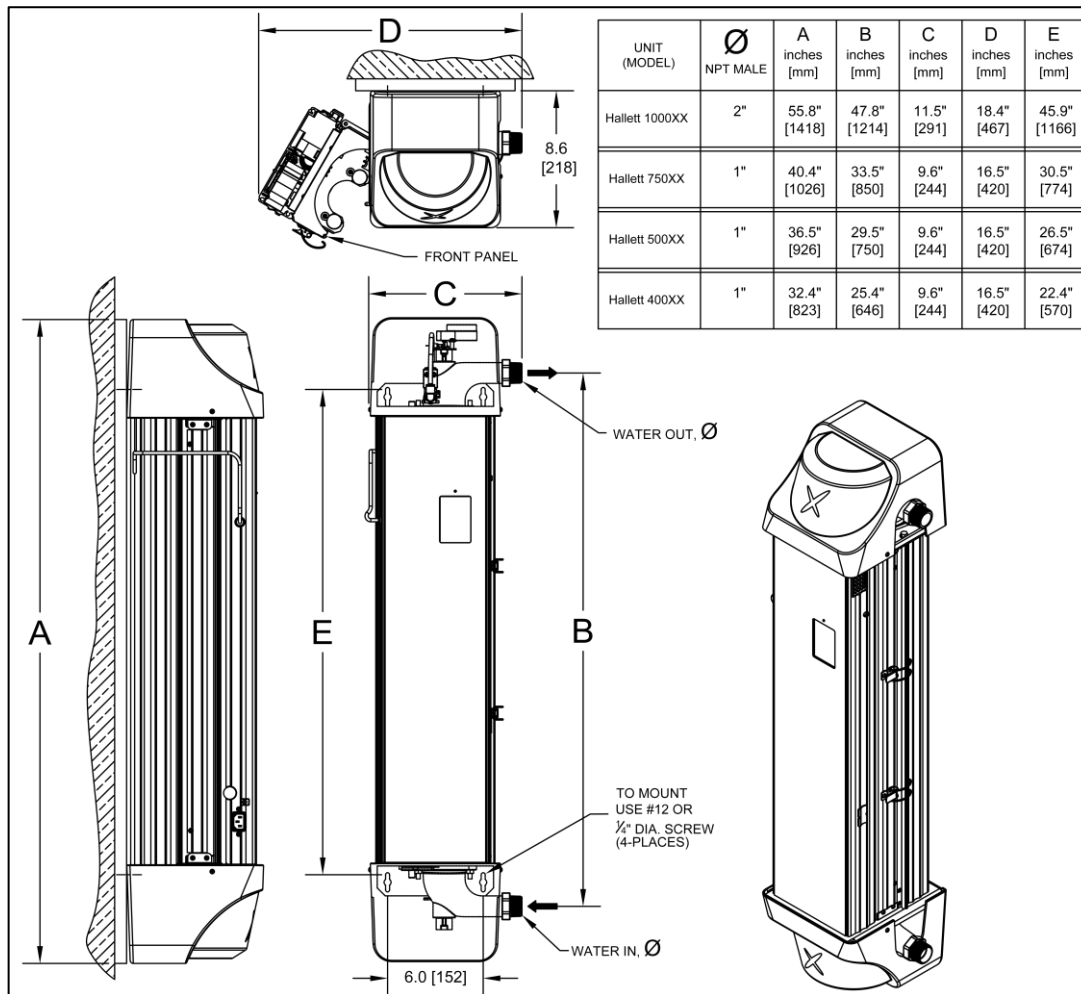

Figure 4-1
2. The UV unit has keyhole slots for convenient mounting – use all four mounts. Do not mount the unit directly to an outside wall; mount on plywood or shims – See Figure 4.1. Remove the top and bottom covers of the unit to make the mounting holes accessible. Mounting hole templates are provided to simplify installation.